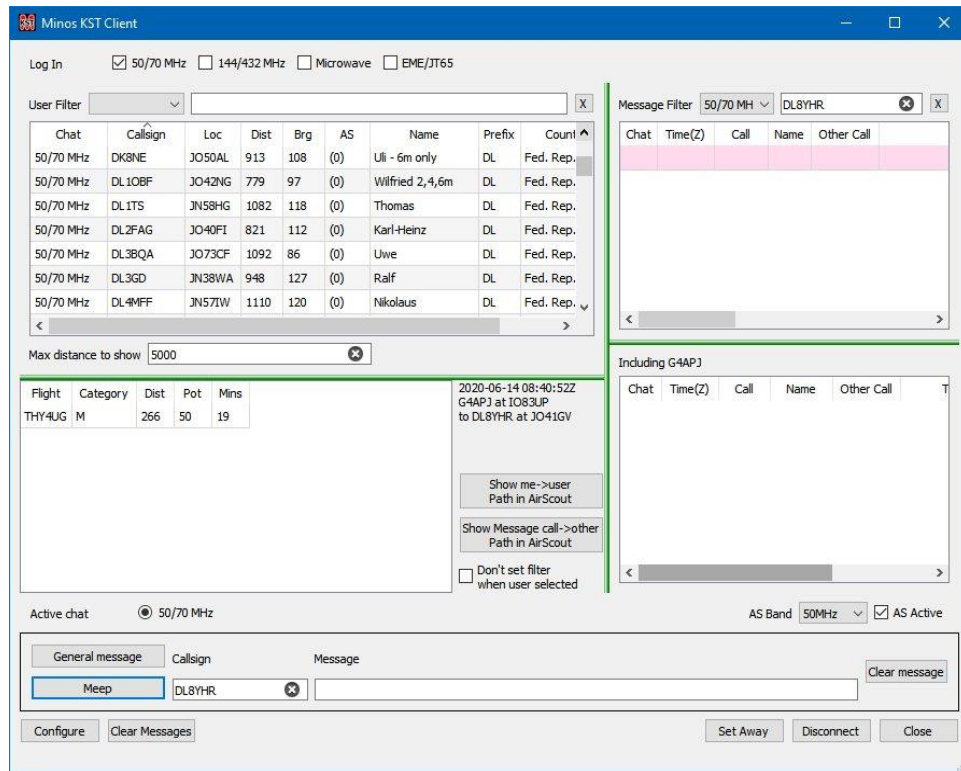

Figure 165 – Airscout operational in KST Client
Once the connection is established¹⁴² additional information (AS) is displayed in the User panel (on the left), and a new panel appears bottom left (Figure 165).